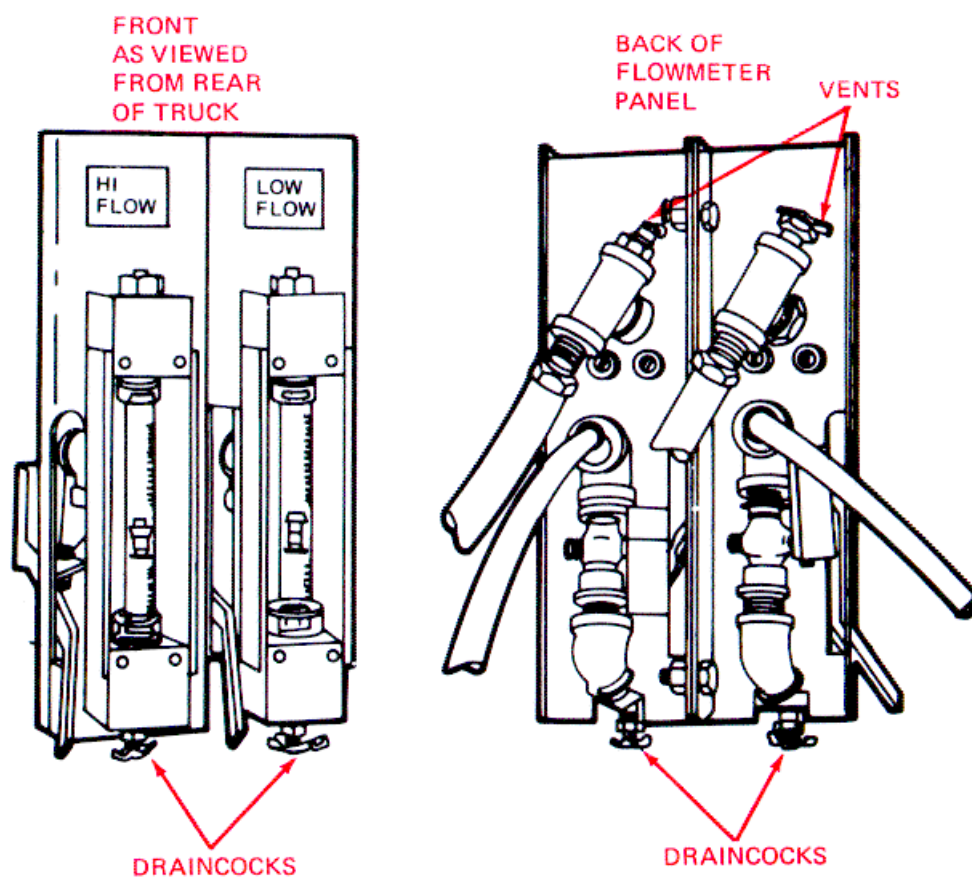

Figure 3-12. Flowmeter Draincocks and Vents.
- (1) Open the vent and draincocks on each flowmeter (fig. 3-12).
- (4) Close the four draincocks and four vents, but leave the drain valve open (fig. 3-12 and 3-13).